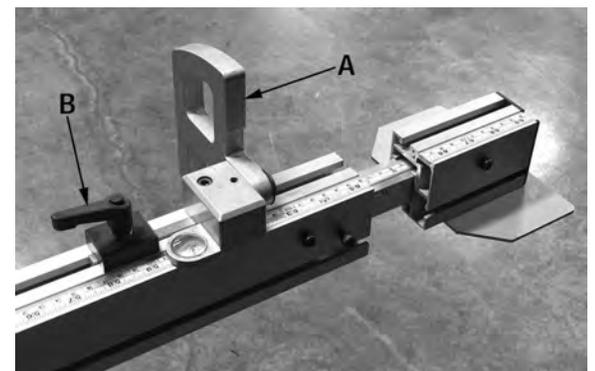

FIGURE 38
4. Install the outrigger table fence flip stop (A) Fig.38 to the fence. Slide the flip stop into the top slot in the fence. Secure flip stop by tightening lock handle (B).